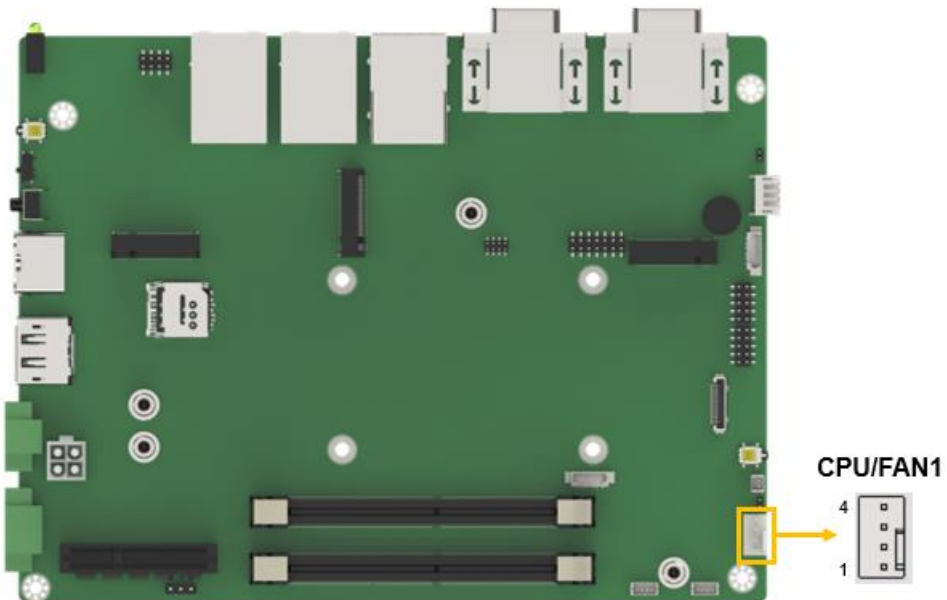

Figure 4-6: Fan Connector Location
- CN Location:** See Figure 4-6